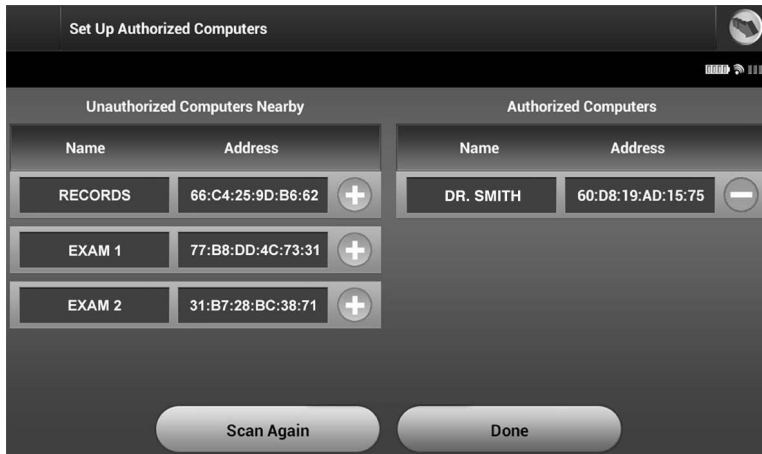

Figure 13: Choosing a computer to authorize for Bluetooth® data transfer
- When the scan is complete the screen will list the discovered computers (the three computers having the strongest *Bluetooth*® signals) under the heading Unauthorized Computers Nearby (Figure 13). Choose the computer you wish to pair with and press the plus button next to it to complete the pairing process.